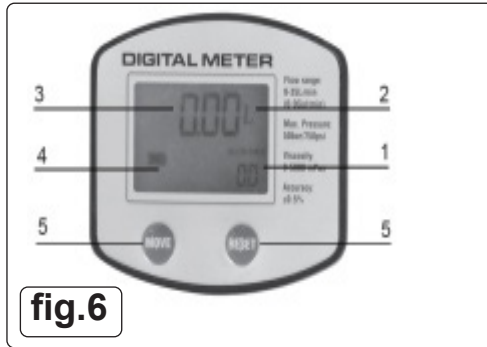

fig.6
- 5.5.1. User Buttons (fig.6)
- Area 2 in fig.6 shows units